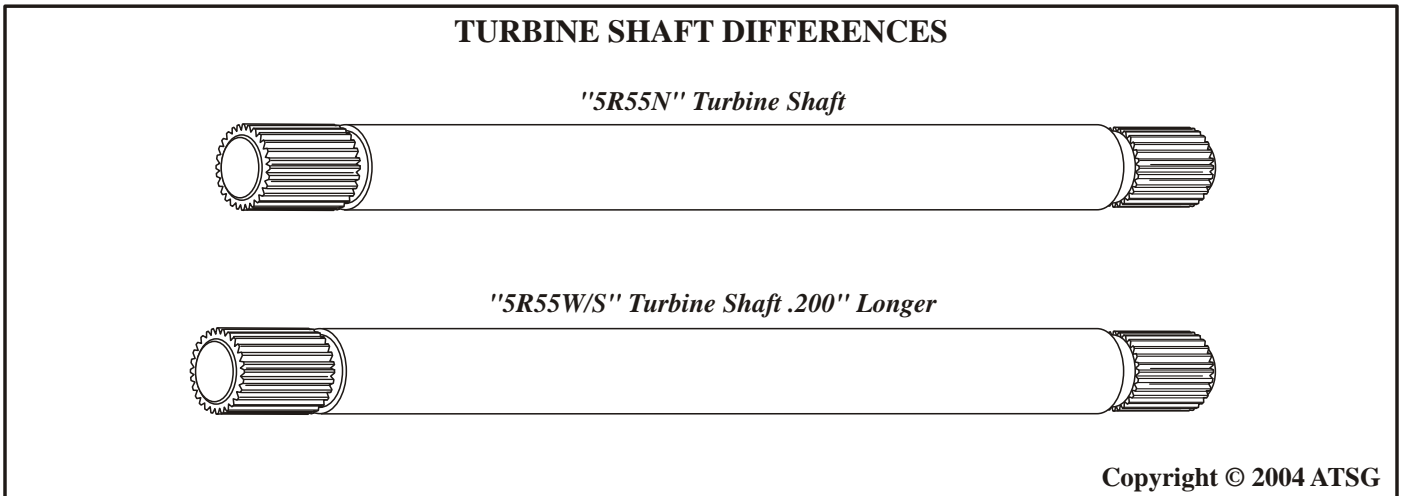

Figure 192
*Figure 192 is an illustration of the two different turbine shafts. They are identical in every respect except for the overall length.*